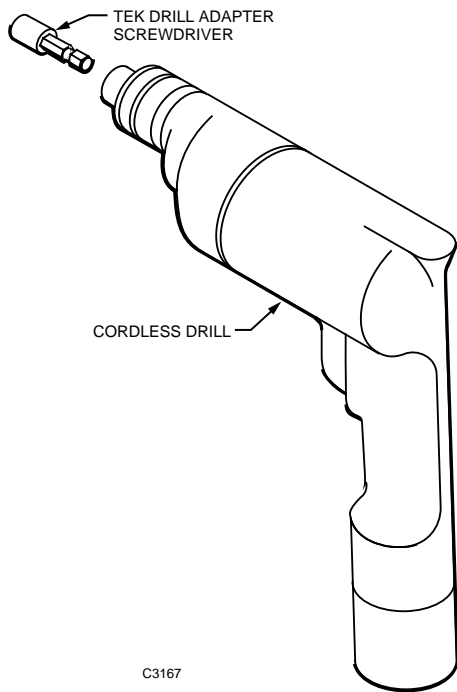

Fig. 25. TEK Drill Adapter Screwdriver and Cordless Drill.
- Cordless Drill CCT713 (Fig. 25)
- TEK Drill Adapter Screwdriver CCT240 (Fig. 25)